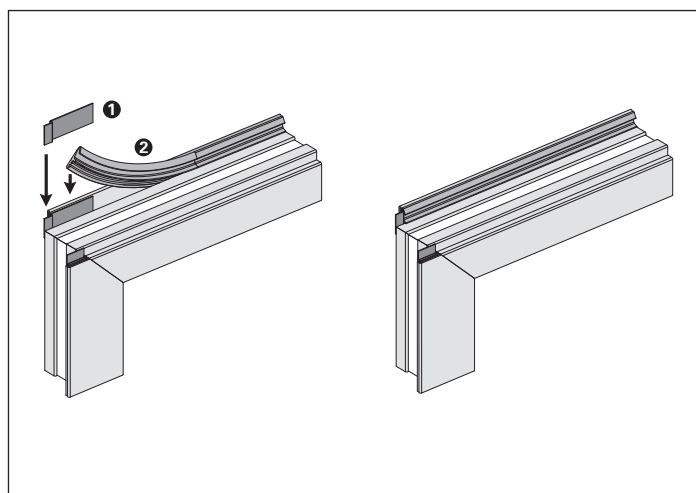

Fig. 290 Meeting stile glazing weatherstrip at the top
The glazing weatherstrip is installed in the secondary leaf on the inside and outside. The meeting stile glazing weatherstrip (1) is aligned in the corner area of the profile rebate glazing weatherstrip and bonded to the rebate glazing weatherstrip (2) using superglue (Fig. 290).